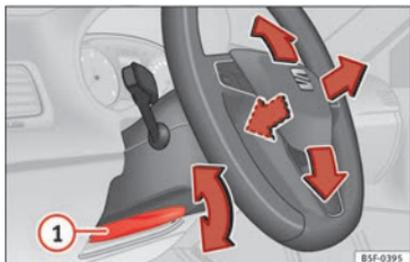

Fig. 20
Adjusting the position of the steering wheel: Pull the » Fig. 20 ① lever down, move the steering wheel to the desired position and lift the lever back up until it locks.